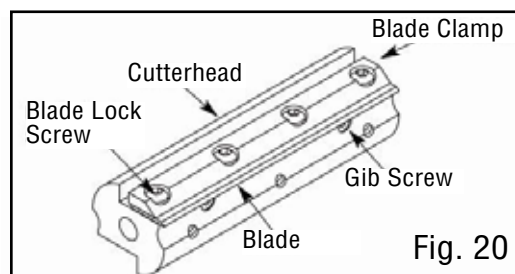

Fig. 20
5. Rotate the cutterhead by hand. The blades should just touch the straight-edge. If a blade is too low or too high at either end, adjust the blade height. Using a hex wrench, loosen the blade locking screws (Fig. 20) and adjust the gib screws (Fig. 20) to re-position the blade. Fully tighten the locking screws once the adjustments have been made.